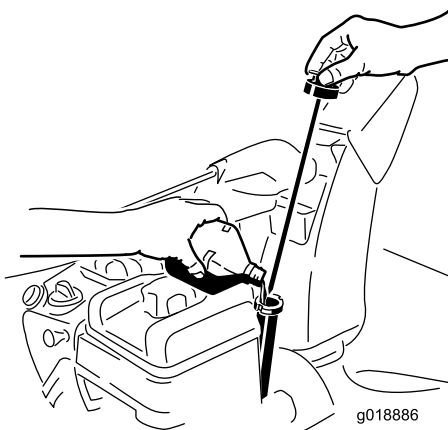

Figure 13
1. Remove the dipstick and **slowly** pour oil into the oil fill tube to raise the oil level to the Full mark on the dipstick. **Do not overfill.** (Figure 13).